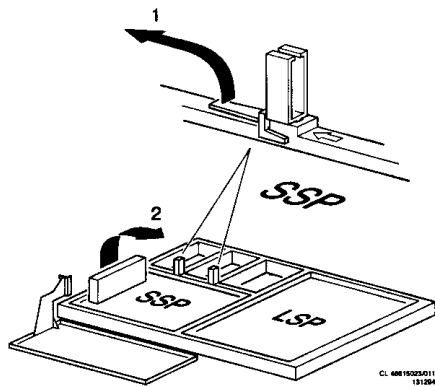

Fig. 5
4.4 Removing the Small Signal Panel (Fig. 5)